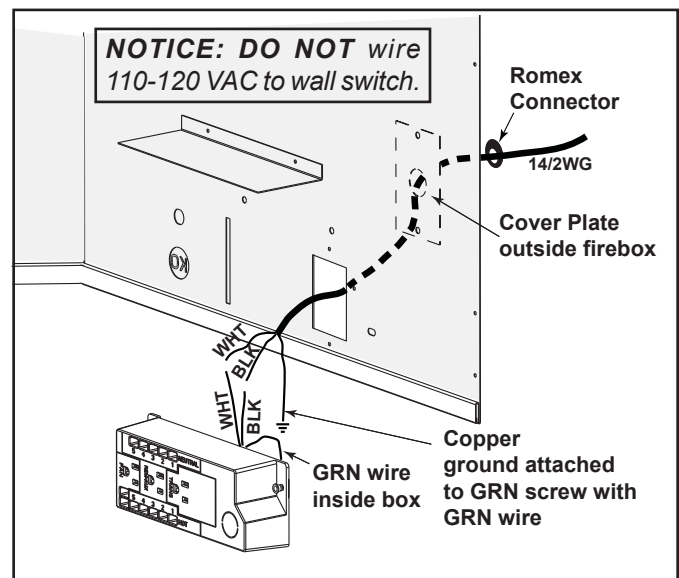

Figure 8.1 Junction Box Detail
- Remove the screw attaching the junction box/receptacle to the outer shell, rotate the junction box inward to disengage it from the outer shell. See Figure 8.1.
- Pull the electrical wires from outside the appliance through the opening into the valve compartment and secure wires with a Romex connector. See Figure 8.1.